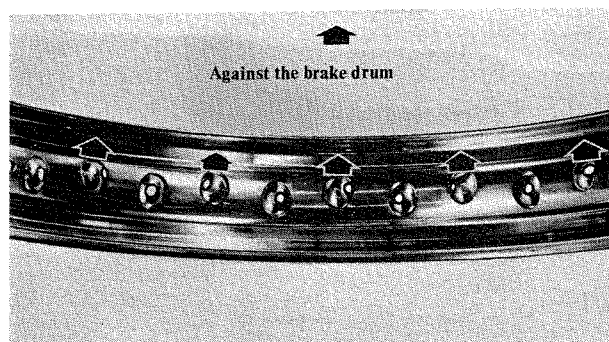

Fig. 9
9. Put the wheel rim over the hub in such a way that the holes in the rim with the greatest inclination angle is directed against the brake drum. See figure 9.